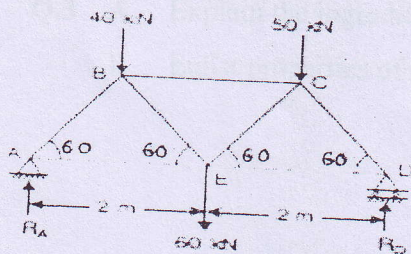

Figure: 3 Q: 4(B) & Q: 5(B)
B Find out the force in the member BC and ED of truss as shown in figure 3. Using method of section. (05)
Q.5 A An alloy bar 2 m long is held between two supports. Find the stresses developed in the bar, when it is heated through 30 K if both the ends (i) do not yield (ii) yield by 1 mm. Take the value of E and α for the alloy as 120 GPa and $24 \times 10^{-6} / K$ respectively. (05)
B Find out the force in the member BC and ED of truss as shown in figure 3. Using method of joint. (05)